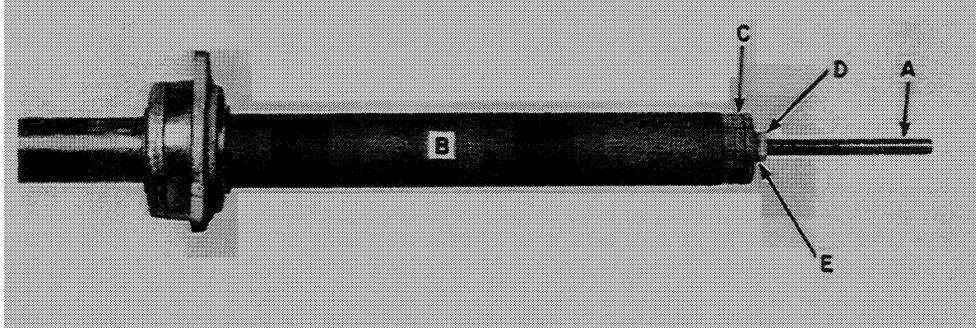

FIGURE 12
DUST CUP, BEARING, AND SHEAVE INSTALLATION TOOL (Figure 12)
This tool is used to install the dust cup, bearing, or sheaves, on the right end of the main shaft, see Figure 12.
Use the tool on TR70 combines on and below serial number 293162. Install as shown in Figure 12. **NOTE: Main shaft is normally not removed when installing the dust cup, bearing or sheaves on the right end of the main shaft.** Install pipe, B, three heavy flat washers, C, (#66850 or a suitable plate with a $\frac{5}{8}$ " (16 mm) hole in the center), flat washer, E, and nut, D, Figure 12. Tighten nut, D, Figure 12, to push the dust cup, bearing and sheave into position. Refer to the TR™70 combine service manual for proper installation procedure.
- 1 *Pipe - $2\frac{1}{4}$ " min. ID, $2\frac{1}{2}$ " OD, 15" long (57 mm, 64 mm, 381 mm) (B, Figure 12.
- 1 All-thread rod - $\frac{5}{8}$ " x 12" (16 mm x 305 mm) UNC Gr. 5 (A, Figure 12)
- 2 Hex nuts - $\frac{5}{8}$ " (D, Figure 12) (one not shown)
- 3 Heavy #66850 flat washers or any suitable plate with a $\frac{5}{8}$ " (16 mm) center hole and $2\frac{1}{2}$ " (64 mm) minimum OD (C, Figure 12)
- 1 Flat washer - $\frac{5}{8}$ " (16 mm) (E, Figure 12)